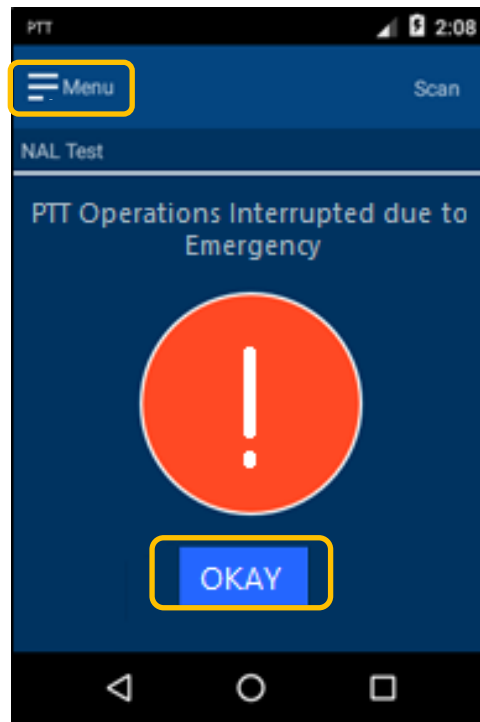

Figure 104: Emergency Mode
1. Press **OKAY** to confirm understanding of the switch to Emergency Tracking Mode (see **Figure 104**).